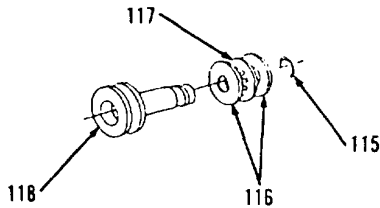

Figure 3-131.
- 7. Install four bolts (120).
- 8. Using a wood block the same circumference as the new shield (119), with a hole in the middle for shaft (123) and a soft hammer to drive new shield (119) into position, install new shield (119). Stake bottom of new shield (119) in two places 180 degrees apart.
- 9. Using clean oil, lubricate riser (118).
- 10. Install riser bearing (117), two races (116) and ring (115) on riser (118, Figure 3-131).